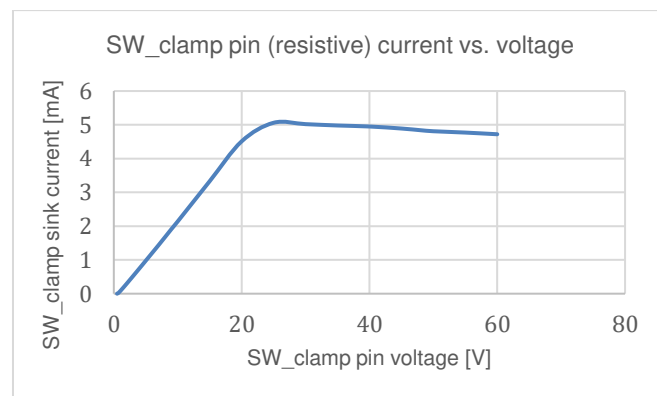

Figure 3: Pin24 resistive characteristic. Controller disabled.
**PWM\_LS (Pin 20):** Low side (LS) PWM gate signal (0 to 3.3V swing) to be connected to suitable input of gate driver or power stage.
**PWM\_HS (Pins 21, 23):** High side (HS) PWM gate signal (0 to 3.3V swing) to be connected to suitable input of gate driver or power stage.
**SW\_clamp (Pin24):** To be connected to SW node. The clamping circuit draws current from this pin when the controller is disabled, to ensure that the output voltage does not rise uncontrolled when both HS and LS switches are off and there is no load connected to the converter. This pin has a resistive behavior with a slope of 4kΩ, and saturates at around 5mA when the voltage in the SW\_clamp pin is greater than 20V, as shown in Figure 3. When the controller is enabled, the leakage current is smaller than 0.5μA. If not required by the application, this pin can be left unconnected.